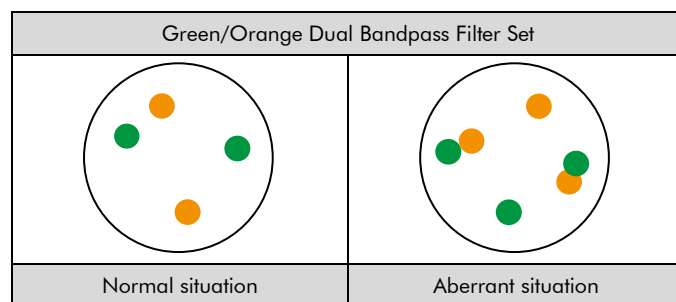

Fig. 2: Expected results in normal and aberrant nuclei
**Normal situation:** In interphases of normal cells or cells without a translocation involving the respective gene regions, two separate orange and green signals appear (see Fig. 2).
**Aberrant situation:** A gene fusion is indicated by one separate orange signal, one separate green signal, and two orange/green fusion signals (see Fig. 2).